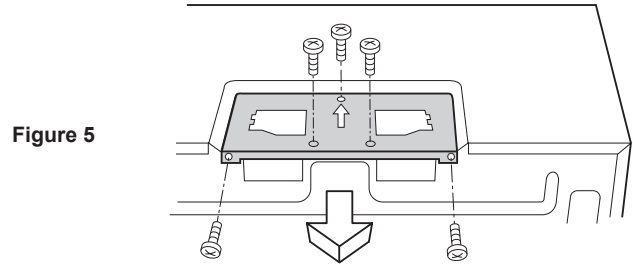

Figure 5
1. Remove 2 screws from back edge and 3 screws from the top center of FAN COVER BRACKET. Save 2 screws to be used later and discard remaining 3. Remove FAN COVER BRACKET by sliding it in the opposite direction of the arrow on the FAN COVER BRACKET. See figure 5.